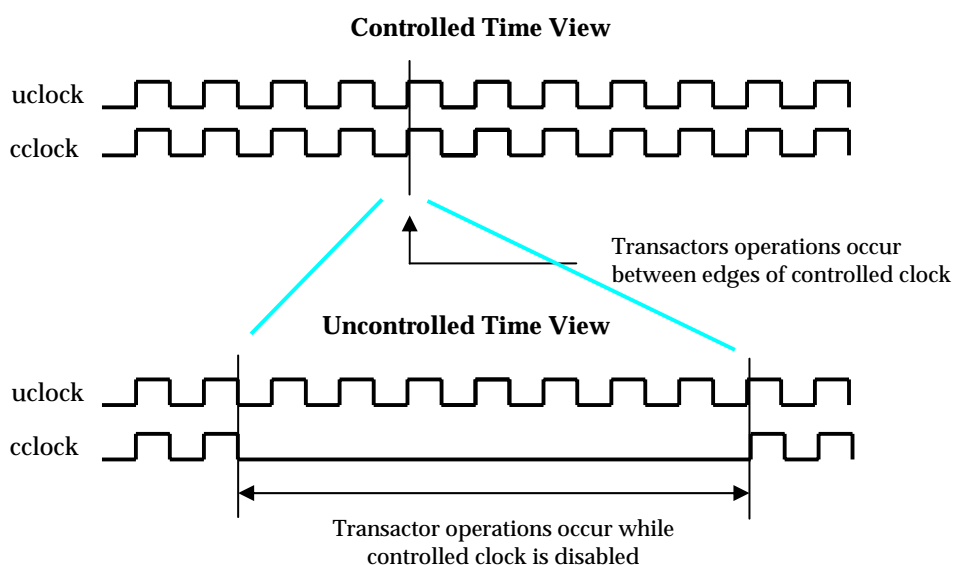

Figure 6: Clock Advancement Mode
Consequently many `uclock` cycles are often generated while controlled design clocks are stopped, as shown on Figure 6.
- a regular frequency (as the Uncontrolled Time View in Figure 6)
- a controlled design clock-based frequency as waveform (as the Controlled Time View in Figure 6)